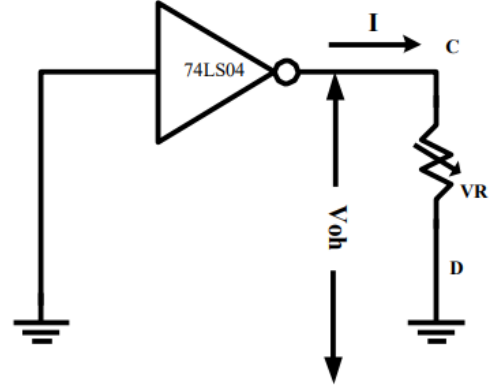

Fig. 4: Circuit Diagram for $I_{oh(max)}$ Measurement
- (1) Replace the resistor R with a $10k\Omega$ variable resistor, as shown in Fig. 4, adjust variable resistor and measure the voltage V_{oh} such that $V_{oh} = V_{ih}$.
- (2) Measure the current between **Points C and D**.